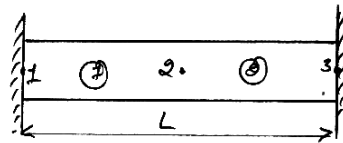

Fig. Q2b
- b. For the one dimensional bar fixed at both ends and subjected to uniform temperature rise of 30°C as shown in Fig.Q2b, determine the reaction at fixed ends and the axial stress in the bar. Let $E = 200 \text{ GPa}$, $A = 24 \text{ cm}^2$, $L = 1.2 \text{ m}$ and $\alpha = 12.5 \times 10^{-6} \text{ mm}^\circ\text{C}$. 12